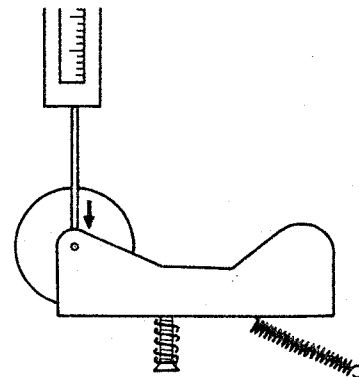

Fig. 5-7
- 3) Put a spring-balance on a measuring position of the Pinch Roller pressure, and adjust it within the range of  $380 \pm 30$  g. (Fig. 5-7) by using the adjusting screw.